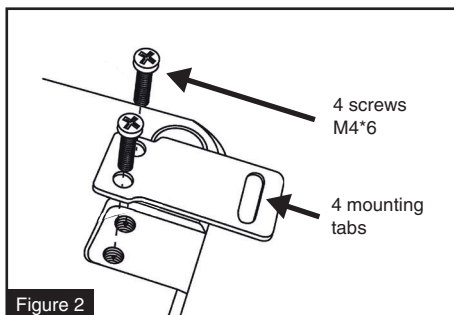

Figure 2
6. Fix the clamps to the subwoofer case with the four screws M4\*6 (the fixing clamps have a mounting direction system) see (Figure 2 & 3)